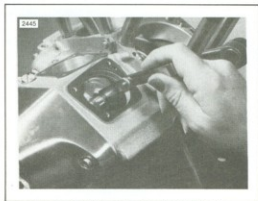

Figure 3-34. Checking Camshaft End Play
- See Figure 3-34. Establish proper cam gear end play as follows: Install thrust washer, spacing